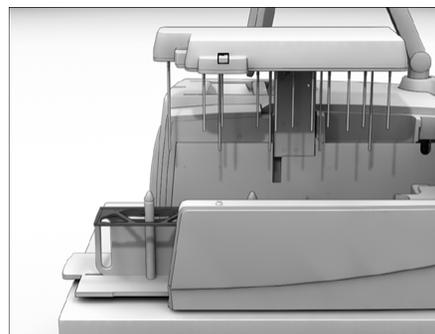

Figure 12: The empty Reagents Cassette in the GS FLX+ Instrument
- Slide the empty Reagents Cassette at least half-way in the instrument, with the Sequencing Reagents tray platform placed on the right (Figure 12).